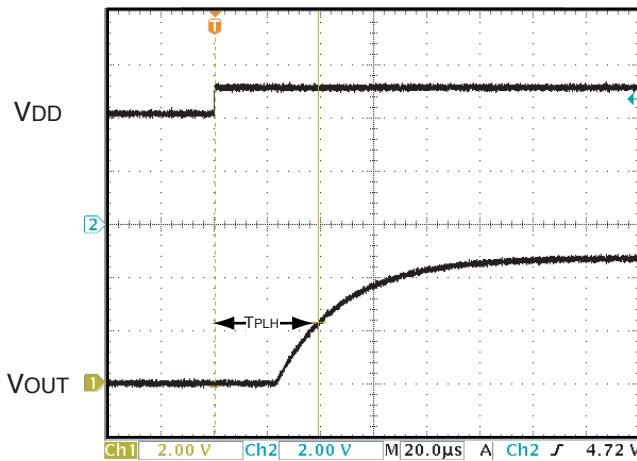

Fig.15
- ① If the V_{DD} is equal to or lower than the operating limit voltage (V_{OPL}) at power-up, the output is inconsistent.
- ② When the V_{DD} is equal to or lower than the reset release voltage ($V_s + \Delta V_s$), $V_{OUT}=L$.
- ③ When V_{DD} exceeds the Reset Release Voltage, V_{OUT} turns H with a delay of T_{PLH} . See Fig. 15 and 17 for the reference waveform.
- ④ If the V_{DD} goes below the detection (V_s) at power-down or instantaneous power failure, V_{OUT} turns L with a delay of T_{PHL} .